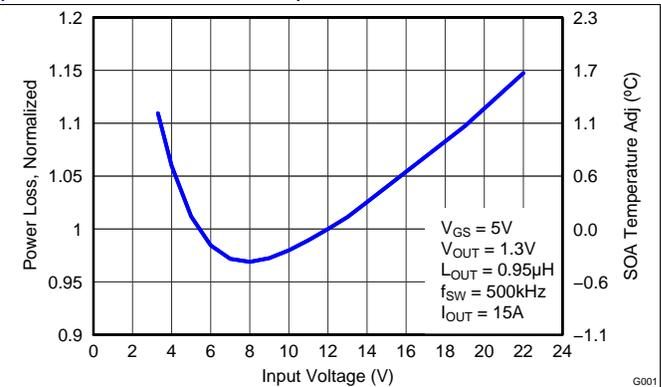

Figure 6. Normalized Power Loss vs Input Voltage
- Normalized Power Loss for input voltage  $\approx$  1.06 (Figure 6)
- SOA adjustment for input voltage  $\approx$  0.7°C (Figure 6)